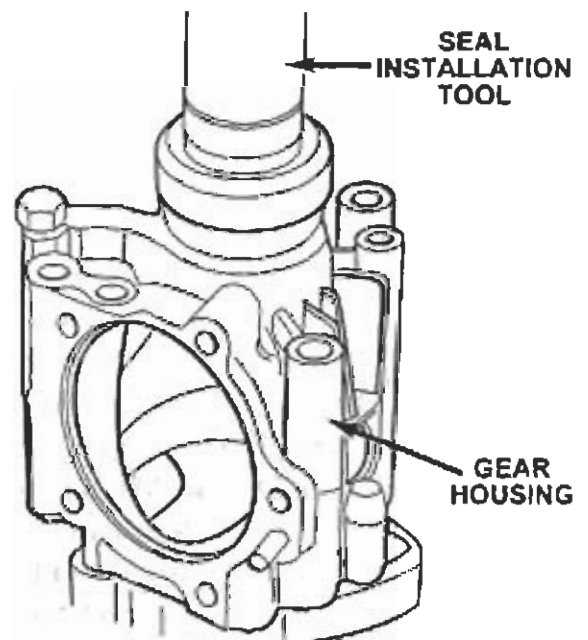

Figure 15
35. **For 5-speed transfer cases:** Use a flat seal installation tool to press the seal into the housing with an arbor press until the seal is flush with the housing surface (Figure 15).
For 6-speed transfer cases: Use a 36mm socket to press the seal into the housing with an arbor press until the seal contacts the seat (Figure 15).